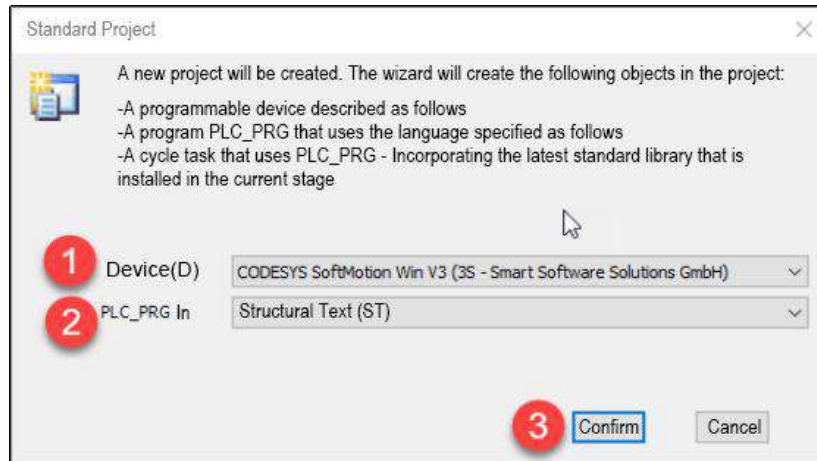

Figure 5-2-34 Selecting device and programming language
In the standard engineering window, select CODESYS SoftMotion Win V3 for device and Structured Text (ST) for PLC_PRG programming language, as shown in Figure 5-2-34.